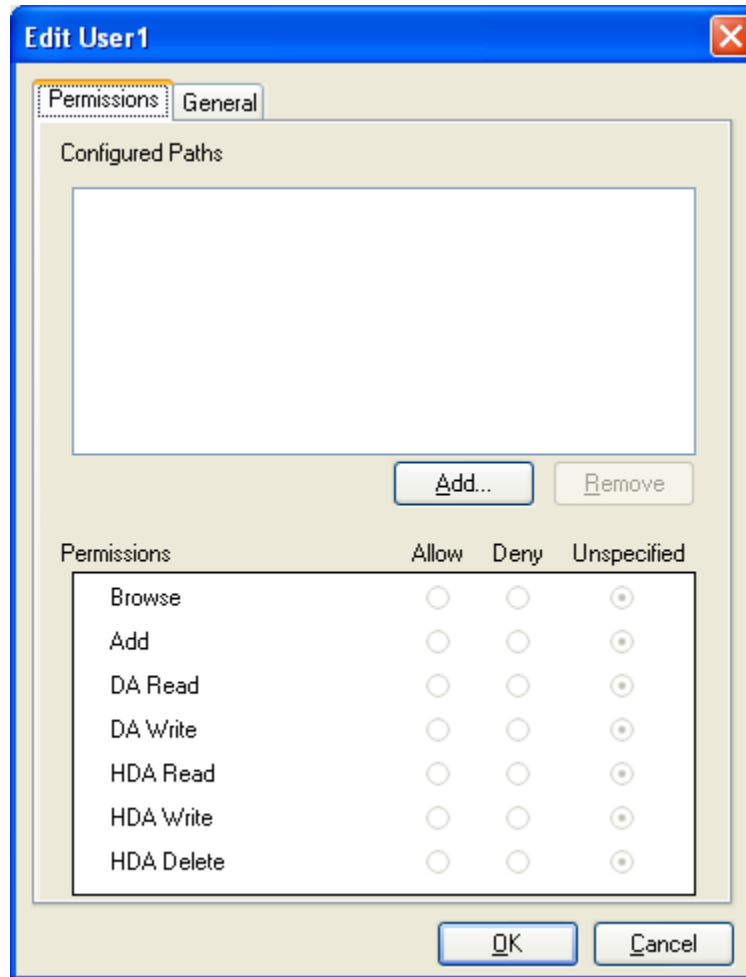

Figure 76 - Edit <Username> Window (Permissions Tab)
6. The **Edit <Username>** window (Figure 76) appears. Follow the instructions in the **Edit User** section for adding permissions.
2. The **Edit <Username>** window (Figure 76) appears.